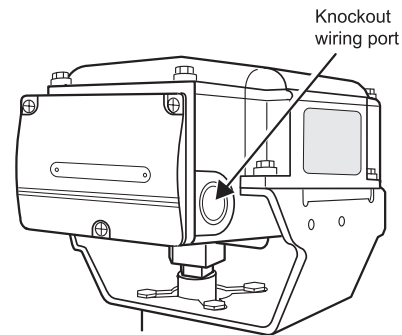

Figure 8. Knockout hole for wiring port
- To lead the wires into the actuator, cut out a knockout hole for a wiring port. There are two knockout holes on the bilateral sides of the actuator terminal block: one $\phi 22$ mm knockout hole on each side. Select a knockout hole according to the conduit mounting direction and cut it out by lightly knocking with a screwdriver. (Refer to Fig. 8)